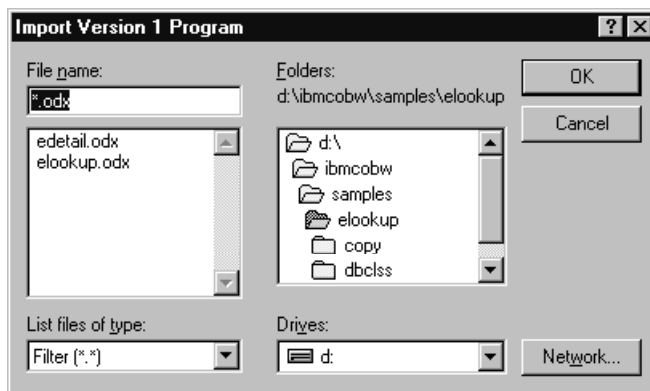

Figure 13. Import Version 1 Program window
2. Select the **File→Import V1 Component** menu item. The **Import Version 1 Program** window appears, as shown in Figure 13.